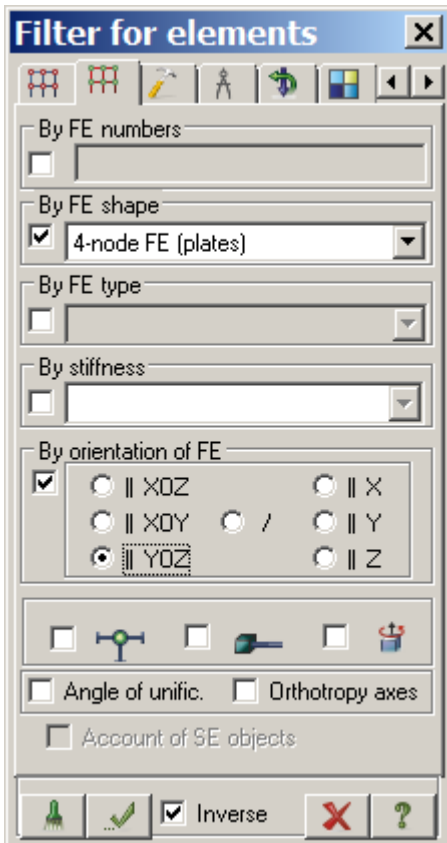

Figure 4.19 **Filter for elements** dialog box
- ⇒ On the **Filter for elements** tab (see Fig.4.19), select **By FE shape** check box and select **4-node FE (plates)** option in the list.